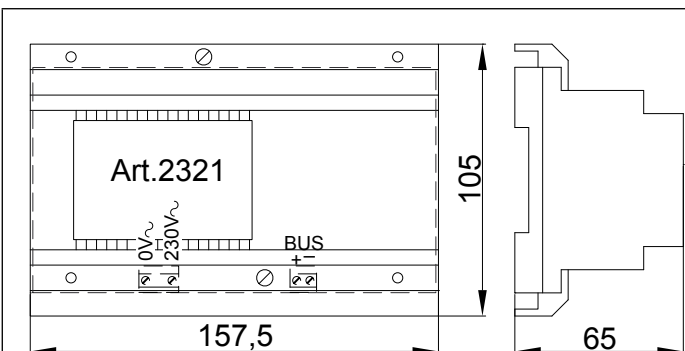

Fig. 1
1. In order to install the videophone, it is necessary to remove the cover, which contains all the electronics, from the base: insert a 5.5mm flat screw driver into the clip (A) then rotate clockwise until you listen a "CLICK!". Repeat the same operation with the other clip as shown in Fig. 1.